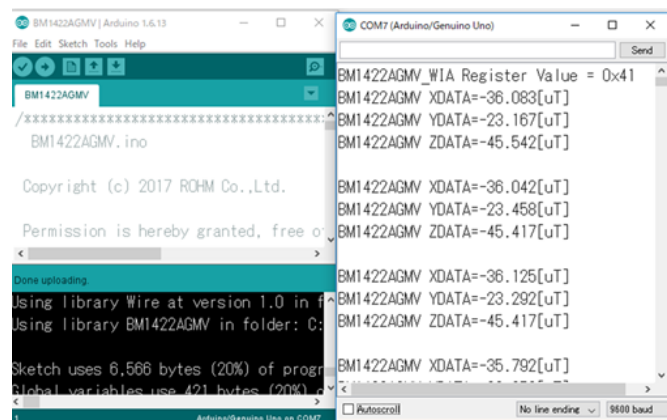

Figure 7. Serial Monitor
- Check log of Serial Monitor (Figure 7)